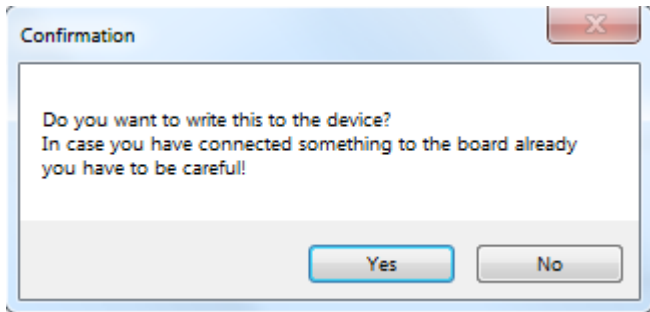

Figure 19. Confirmation Window
5. The Munich GUI now shows all pin descriptions in the GUI according to the register file. But the GUI does not immediately write it to the device, allowing the user opportunity to double-check. This step is only important if something is already connected to the MAX11312 ports as a DAC can provide up to $\pm 10V$ and potentially destroy the external circuitry. Also, do not connect 2-DAC ports together (shorted) and set to **different voltage levels**. In addition, **GPI ports can only support levels between 0V and 5V**. Therefore, do not connect a DAC to a GPI with a voltage outside of the allowed range. A **Confirmation** window appears as depicted in **Figure 19**.